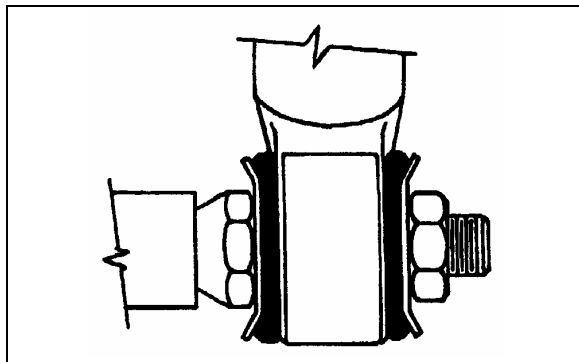

FIGURE 6: TYPICAL SHOCK ABSORBER SETUP 16009
3. Place the inner washers (with washer convex side facing the shock absorber rubber bushing) on each shock absorber pin (Fig. 6).